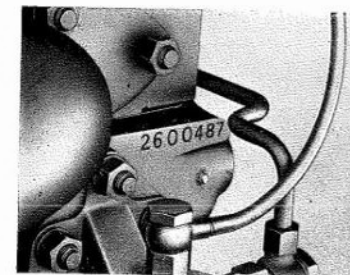

Fig. B.1.
1. On a facing high at the rear of the fuel pump side of the block. See Fig. B.1.